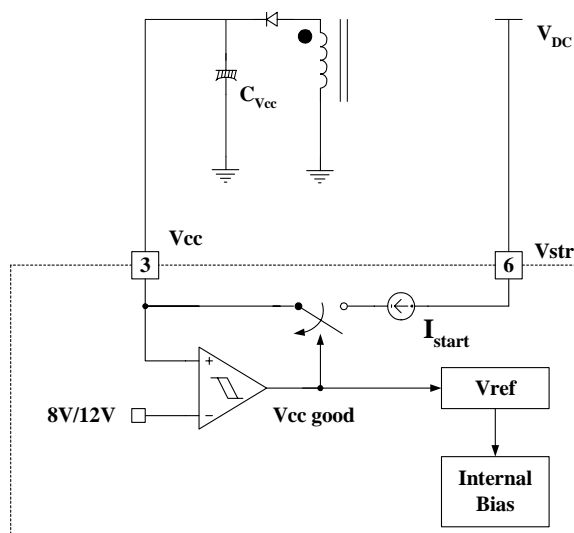

Figure 4. Internal startup circuit
1. Startup : In previous generations of Fairchild Power Switches (FPSTM) the Vcc pin had an external start-up resistor to the DC input voltage line. In this generation the startup resistor is replaced by an internal high voltage current source. At startup, an internal high voltage current source supplies the internal bias and charges the external capacitor (C_{VCC}) that is connected to the Vcc pin as illustrated in figure 4. When Vcc reaches 12V, the FPSTM begins switching and the internal high voltage current source is disabled. Then, the FPSTM continues its normal switching operation and the power is supplied from the auxiliary transformer winding unless Vcc goes below the stop voltage of 8V.